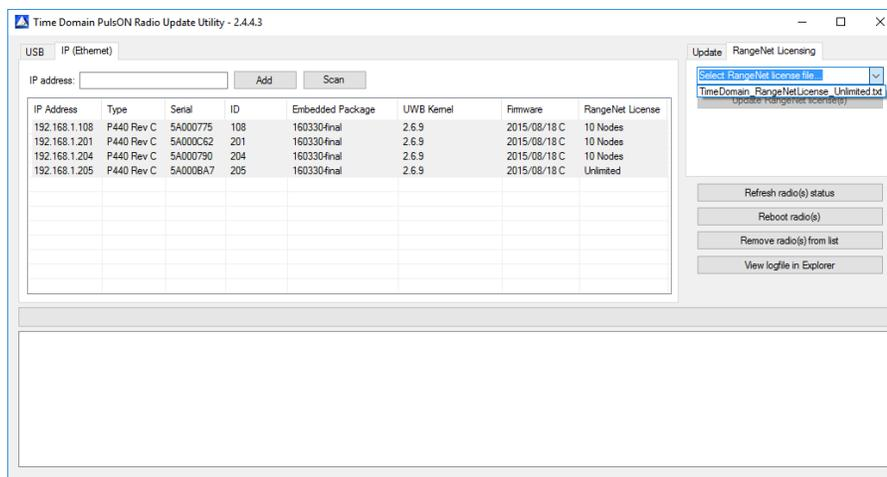

Fig. 8: Example of how to upgrade your RangeNet license on a particular unit
4. Click on the RangeNet Licensing tab and then select the file “TimeDomain_RangeNetLicense_Unlimited.txt” from the drop-down window. This is illustrated in **Figure 8**.